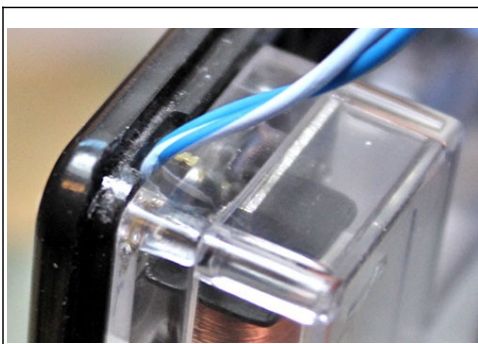
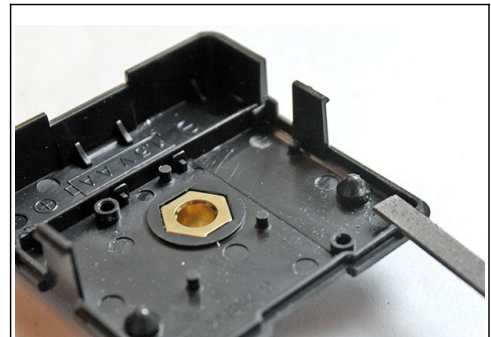

Fig. 46: Wires in slot in case front.
Fig. 44: Filing a slot in the case front .
The easiest and neatest way to do this is to use a narrow flat file, as shown in Fig. 44. Or you can use a sharp #11 blade in a hobby knife.
- ☐ Make the slot about 3/16" wide and about 1/16" deep. On the case front (Fig. 44), cut only the flange (ridge) that runs around the case. Stop cutting when you reach the case surface itself. One side of the slot should be adjacent to the corner curve in the flange; this is the correct location for the motor wires you installed above.
- ☐ Place the modified movement into the case, with the shaft passing through the brass bushing. Ensure that the wires rest in the slot you cut into the case flange (Fig. 46). Also ensure that the wires don't hold the housing too high. There is a conical protrusion molded into the case (visible at the end of the file in Fig. 44). This protrusion should fit into a hole in the movement
- Hold the movement against the case front, making sure the wires pass freely through the slot. Gently bend the wires so they are parallel to the case front (e.g., bend them 45° toward the left in **Fig. 46**). Snap the case cover onto the case front. Be sure the slots in the case front and cover case align, and that the wires pass easily through the slot; see **Fig. 28** on page **41**.